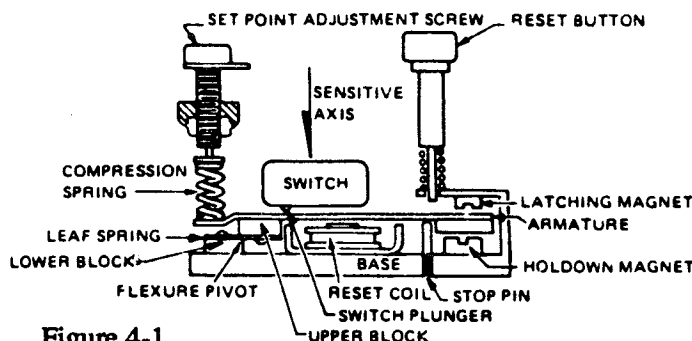

Figure 4-1.
The Vibraswitch, Model 365 (Ref. Figure 4-1), is sensitive to vibration in a direction (the sensitive axis) perpendicular to its mounting base. It contains a vibration detecting mechanism, which also functions as a 'mechanical amplifier', to activate a snap-action switch when the selected level of vibration is exceeded and the detecting mechanism "trips".
With the equipment on which the Vibraswitch is mounted not operating, back off the Setpoint adjusting screw counterclockwise (CCW) two turns and press the reset button. Then turn the Setpoint adjusting screw slowly clockwise until actuation occurs (the armature assembly is against the latch magnet, Figure 4-1). This is the zero vibration point, or actuating point, with the machine not operating. A mark should be made with a lead pencil or other convenient means to permanently record this "zero" vibration point." Subsequent measurements are made relative to this point.
a. Functional Test (Ref. Figure 4-1)
2. **Broken Leaf Spring (Ref. Figure 4-1)** – Return the Vibraswitch to the factory for repair.
WARNING – When replacing parts in the field, do not remove or readjust the magnets, stop pin, leaf springs, armature or any parts associated with the armature. (See Figure 4-1.)